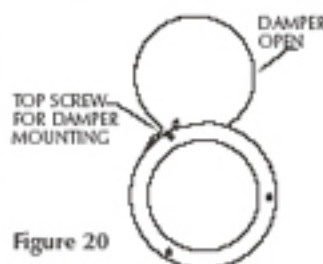

Figure 20
5. Mount the bypass collar and damper (Fig. 20) using the three supplied screws. The air damper should be installed in the open position. The top screw secures the damper.